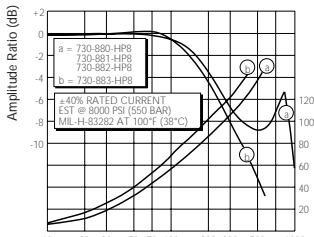

Figure 1 - Reduced Amplitude Frequency Response
**Frequency Response:** Typical estimated response characteristics for 730-HP8 Series Servovalves are shown in Figures 1 and 2.